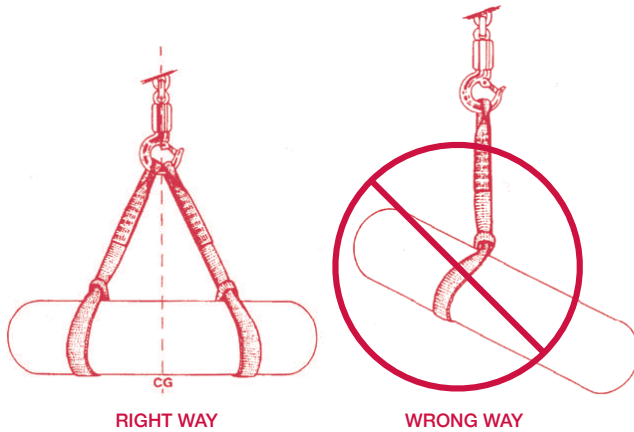

Figure 1
**CONTROL AND BALANCE** – Use a hitch that will keep the load under control at all times and be sure the lifting device is directly over the Center of Gravity. (see example Figure 1)